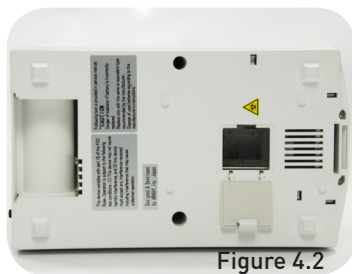

Figure 4.2
3. Place the analyzer on the side and open the bottom maintenance cover. **[Figure 4.2]**